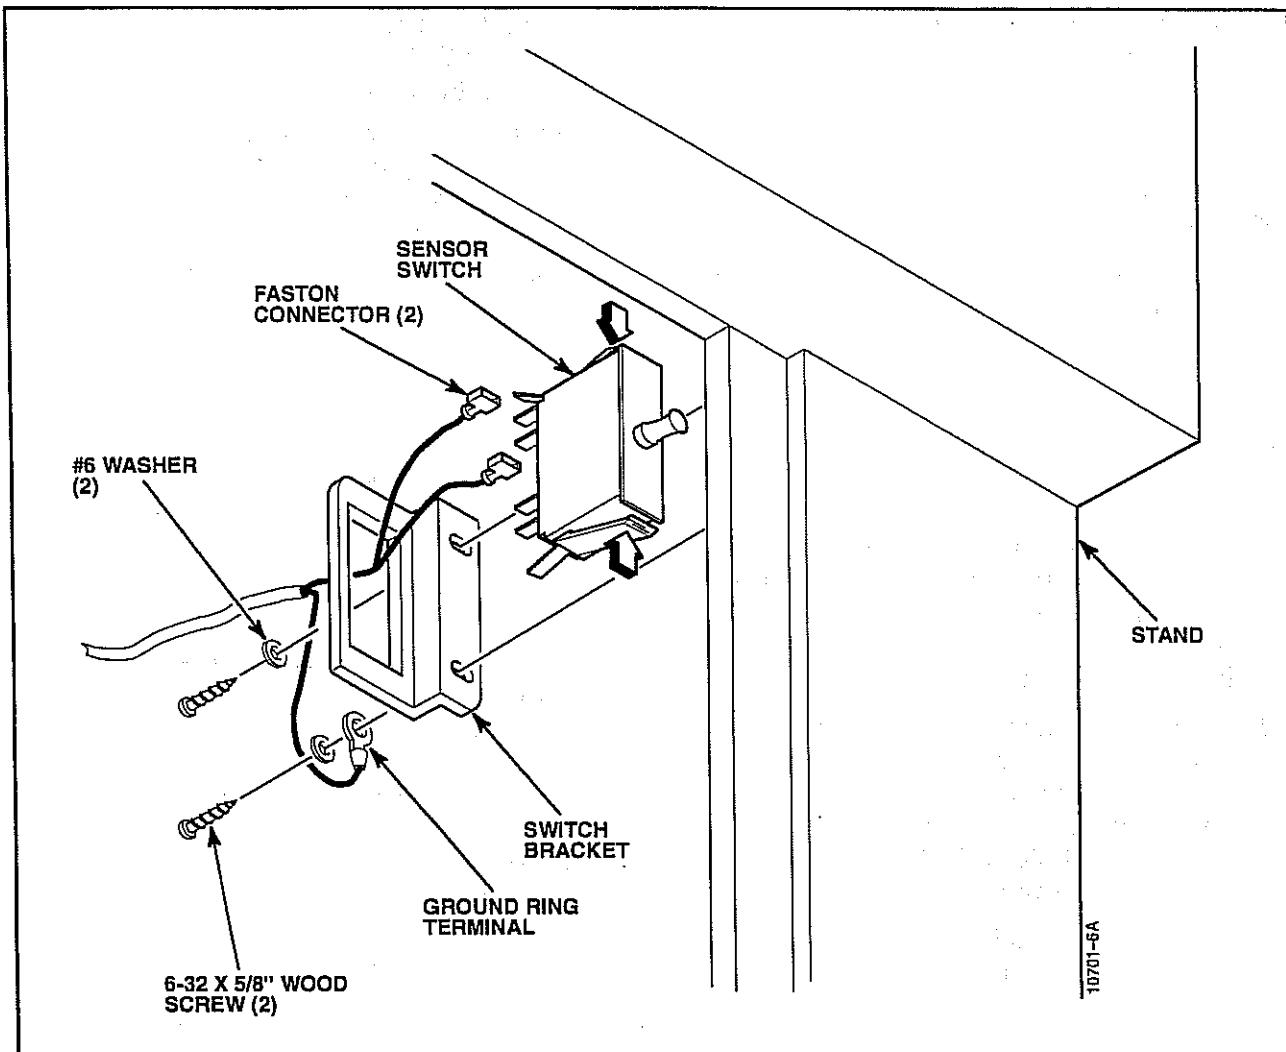

Figure 2-4. Drop-Door Sensor Switch – Vertical Placement.
Refer to Figure 2-4 and the following instructions for installing the drop-door sensor switch in a vertical position in the stand.
3. Position the switch bracket so that the front of the switch faces out of the door opening in front of the stand (when mounted) and the two mounting holes contact the right side of the door, as shown in Figure 2-4.
8. Snap the switch into the bracket (from the front of the bracket) so that it appears as shown in Figure 2-4.